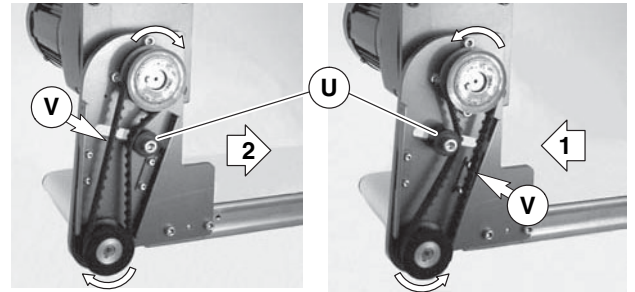

Figure 12
8. Depending on direction of conveyor belt travel (1 or 2 of Figure 12), position belt tensioner (U) as shown. Tension belt to obtain 0.125" (3 mm) deflection for 1.0 lb (456 grams) of force at belt mid-point (V). Tighten tensioner screw to 103 in-lb (12 N-m).
3. Depending on direction of conveyor belt travel (1 or 2 of Figure 12), position belt tensioner (U) as shown. Tension belt to obtain 0.125" (3 mm) deflection for 1.0 lb (456 grams) of force at belt mid-point (V). Tighten tensioner screw to 103 in-lb (12 N-m).
5. Depending on conveyor belt travel (direction 1 or 2), locate timing belt tensioner (Figure 12, item U) as shown. Tension timing belt to obtain 0.125" (3 mm) deflection for 1.0 lb (456 grams) of force at timing belt mid-point (V). Tighten tensioner screw to 103 in-lb (12 N-m).